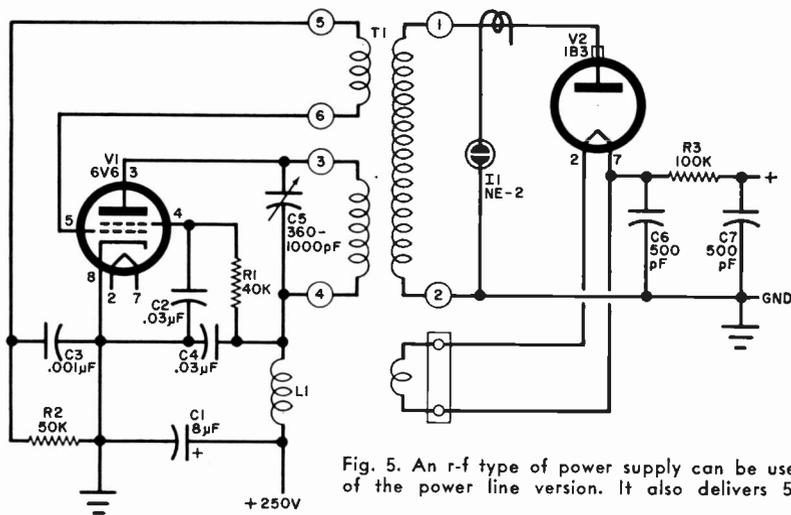

Fig. 5. An r-f type of power supply can be used instead of the power line version. It also delivers 5000 volts.
**R-F High-Voltage Supply.** A schematic for a radio-frequency high-voltage unit is shown in Fig. 5. It is an inexpensive and slightly less dangerous alternate to the supply described above.
to measure output voltages without excessive loading. After wiring is complete, remove rectifier tube *V2* and adjust the oscillator for maximum output power by tuning capacitor *C5* with an insulated alignment tool. Place a "gimmick" or single-turn coupling loop with a neon lamp on the output of *T1* as shown in Fig. 5 and tune the circuit until the lamp attains maximum brilliance. Remove the neon lamp and gimmick after tuning is complete. In operation, it is proper for the filament of the 1B3 to glow a dull red.